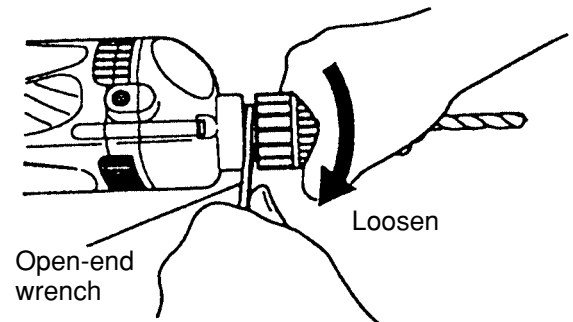

Fig. 2
- If it is hard to loosen the sleeve, fix the spindle using the open-end wrench, hold the sleeve firmly, and turn it in the loosening direction (counterclockwise when viewed from the front). (Fig. 2)